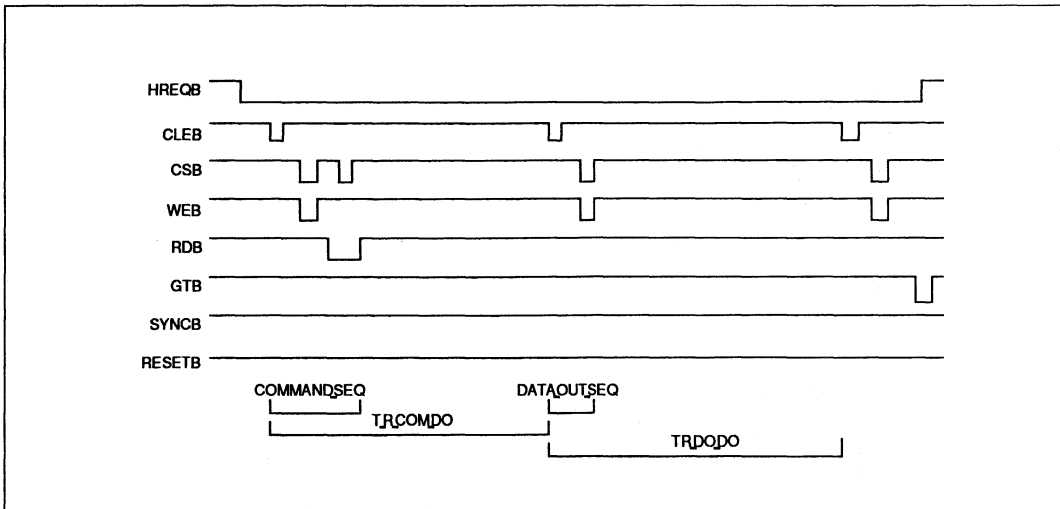

Figure 2.4: Receive Commands (including Broadcast)
**RECEIVE COMMAND (INCLUDING BROADCAST)** (Figure 2.4)